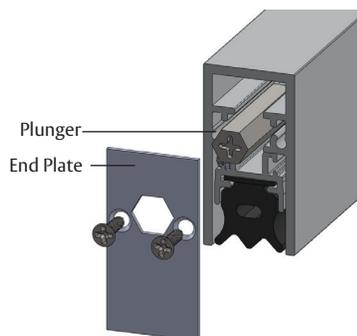

Figure 5
4. On the plunger side, with the “This Side In” sticker towards the ADB, align the end plate’s hexagonal hole with the plunger and install using the end plate screws as shown in Figure 5 (PEMKO logo should be visible).